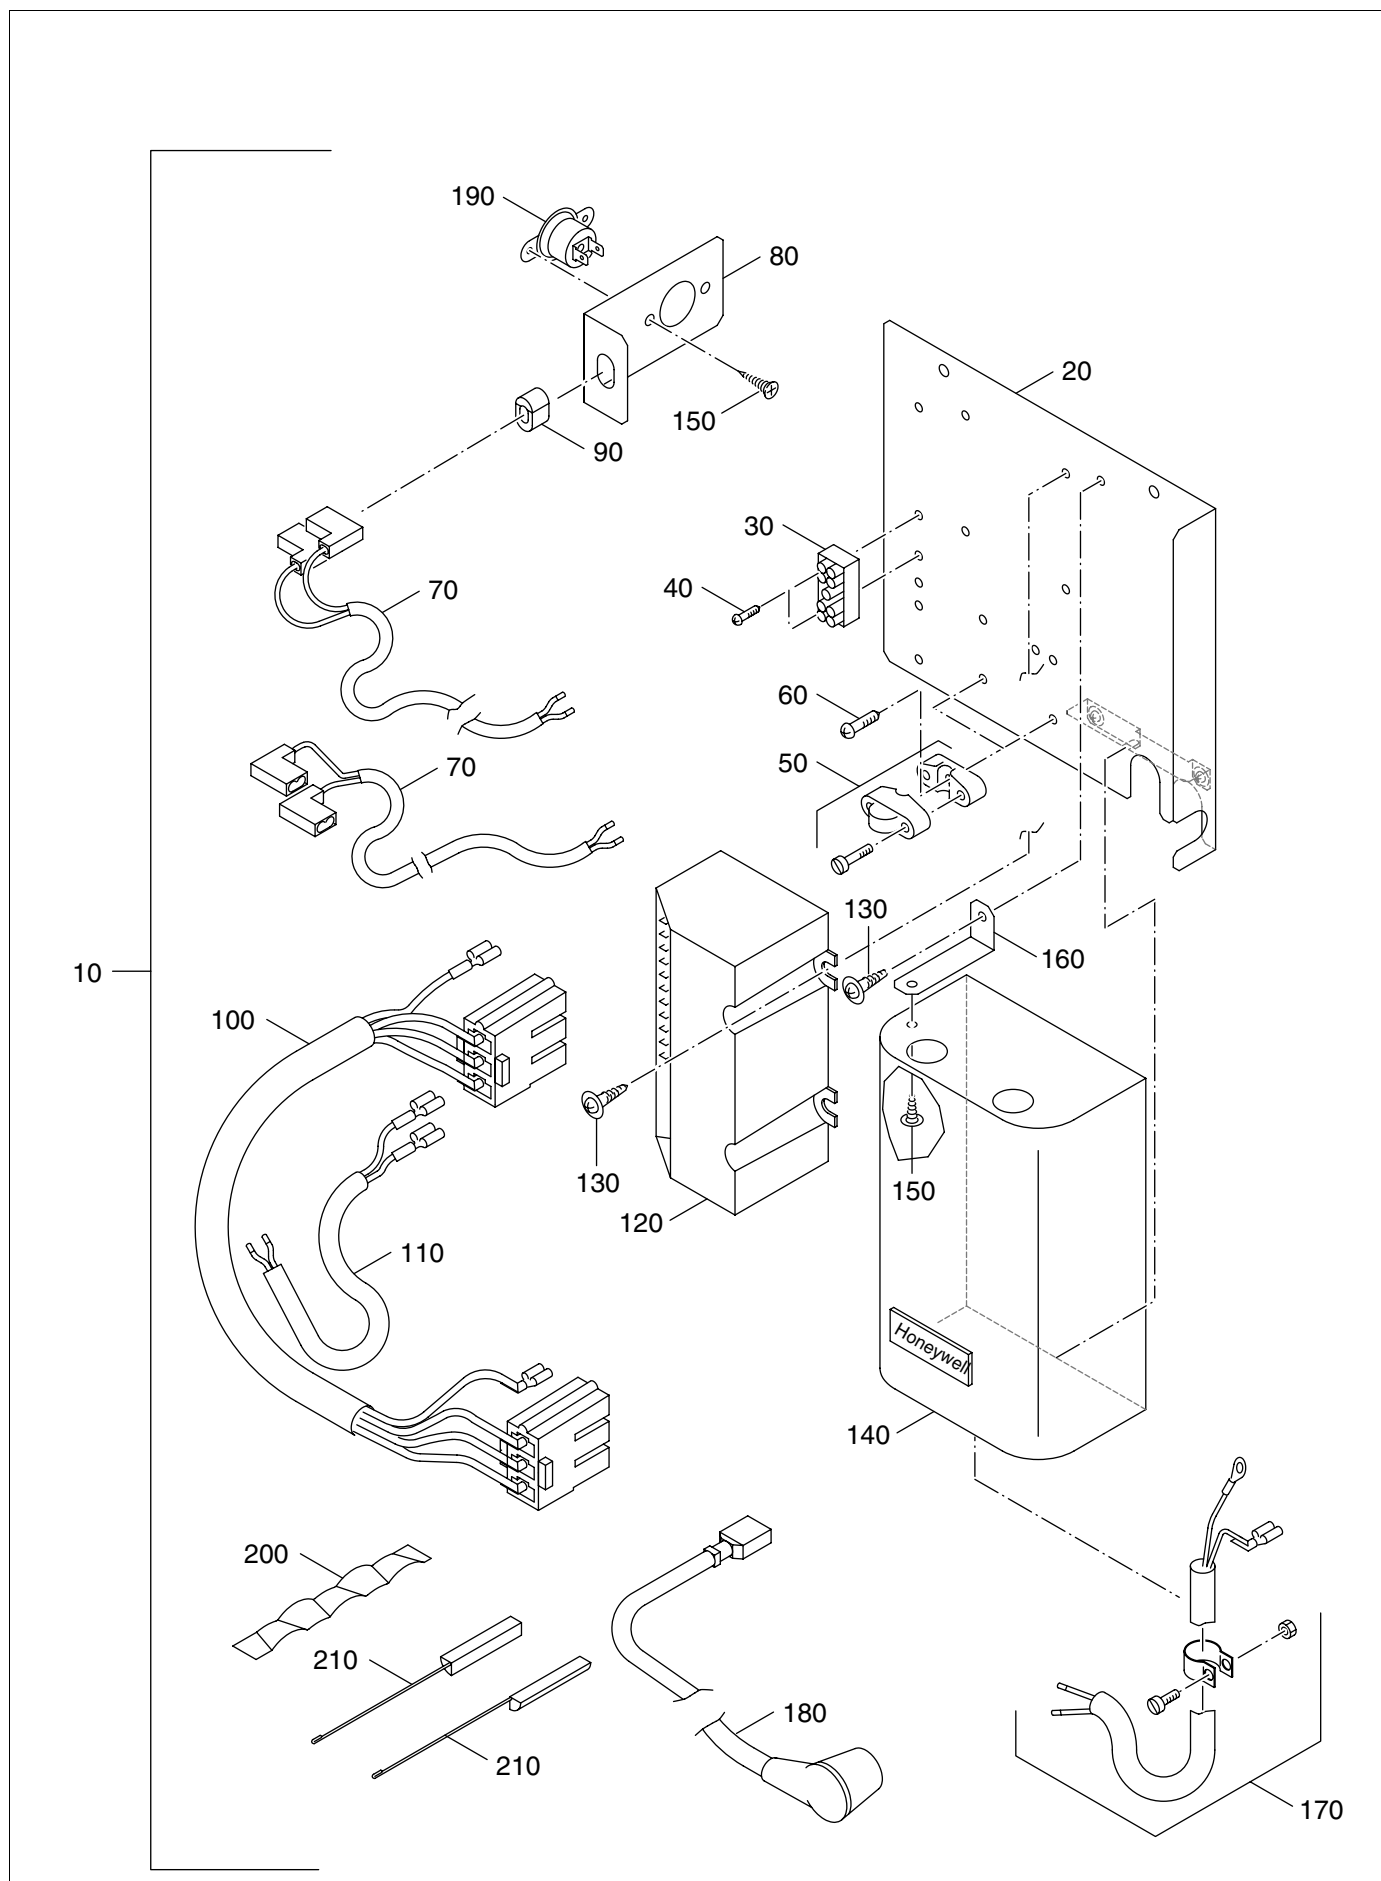

Fig. 52 Control panel assembly for G124X II
**Control panel assembly for G124X II (→ Fig. 52)**